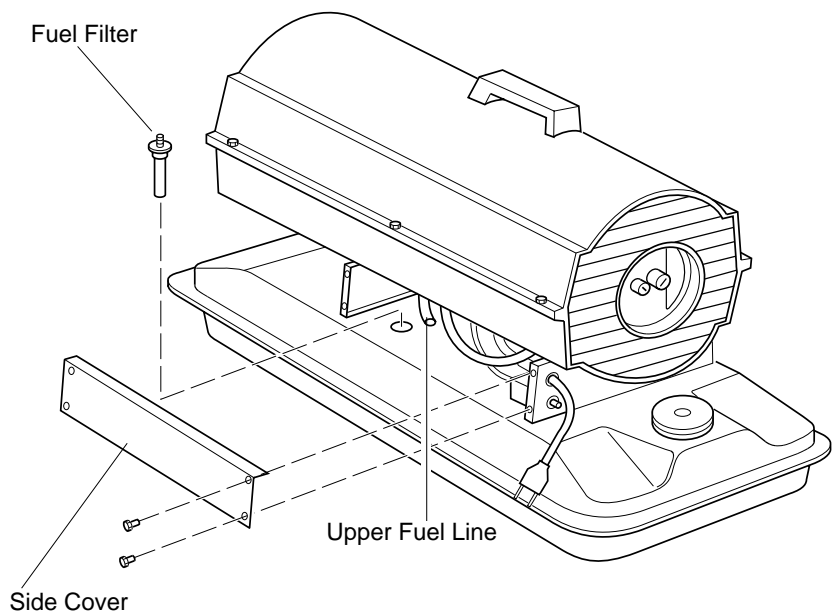

Figure 8 - Fuel Filter Removal
14. Place fine grade sandpaper (600 grit) on flat surface. Sand rotor lightly in "figure 8" motion four times (see Figure 14).